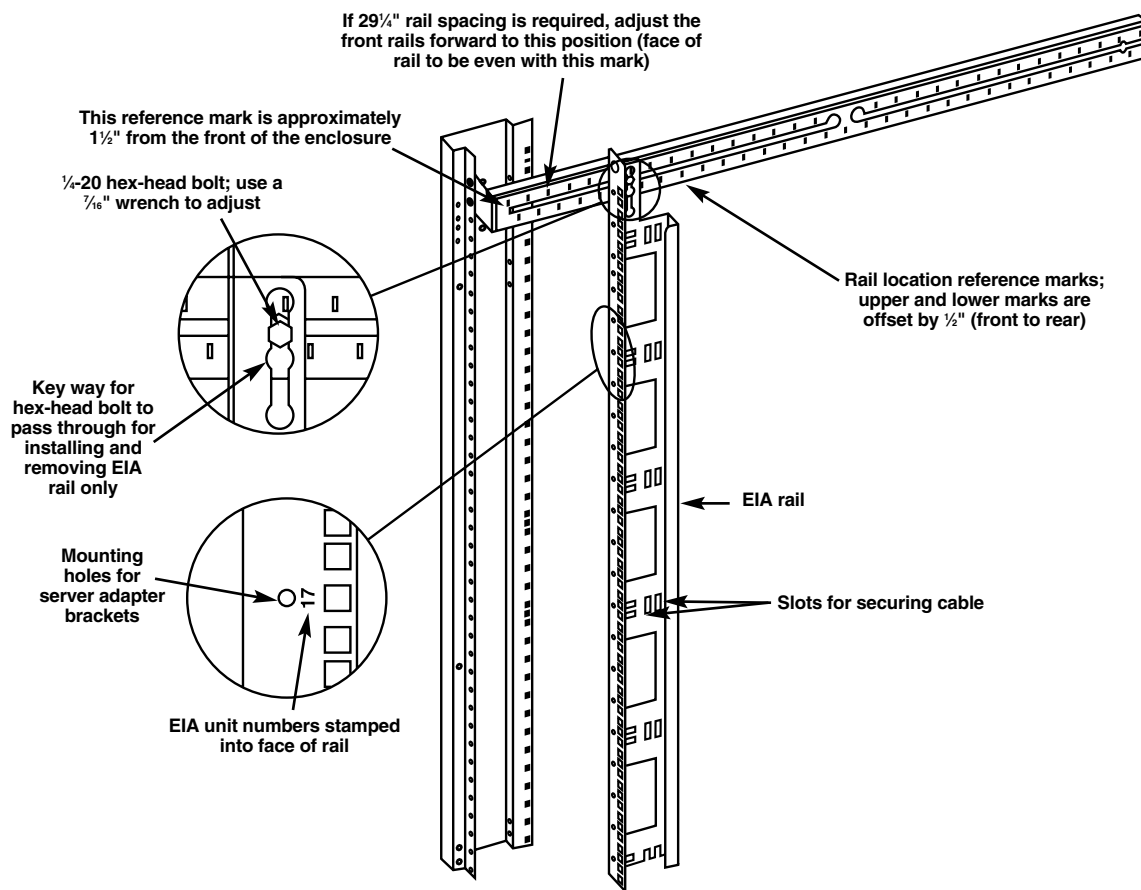

Figure 3-1. EIA rail adjustment.
1. Loosen one of the $\frac{1}{4}$ -20 bolts approximately $\frac{1}{2}$ turn with a $\frac{7}{16}$ " wrench as shown in Figure 3-1. Don't remove the bolt. Loosen the other bolt.
2. Slide the rail to the desired position. Use the reference marks (see Figure 3-1) for convenience.